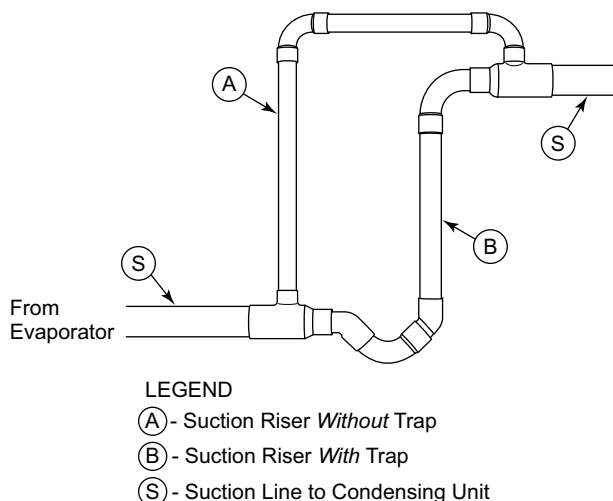

Fig. 7 — Suction Line Piping — Double Riser
- c. See Fig. 7 for double riser diagram.
See Fig. 7 for double riser reference, where tube S is the horizontal line size, tube A is the reduced diameter riser size without bottom trap and tube B is the parallel riser size with bottom oil trap.